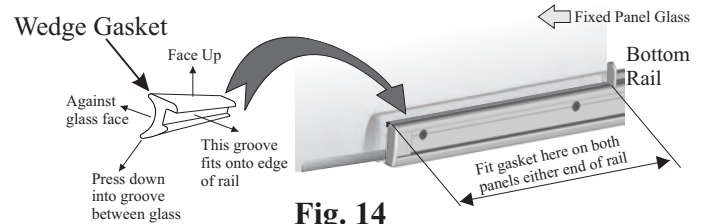

Fig. 14
- 8** **FITTING WEDGE GASKETS**, Insert the seals as shown below, Fig.14 - into the recess between the glass and the bottom rail at the ends of the fixed panels where they are clamped into the rail.